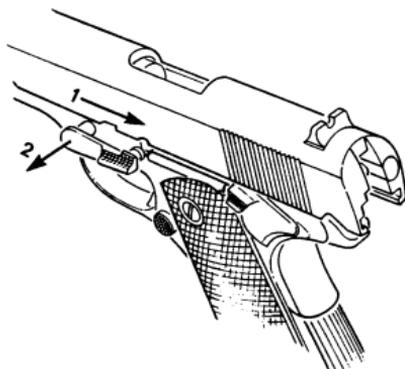

FIGURE 7 - REMOVING SLIDE STOP
5. Pull slide to rear until lug on slide stop is opposite disassembly notch (See Figure 7) and push rounded end of pin of slide stop (on right side of receiver) inward and through receiver to disengage slide stop from slide.
6. Lift out slide stop. (See Figure 7).